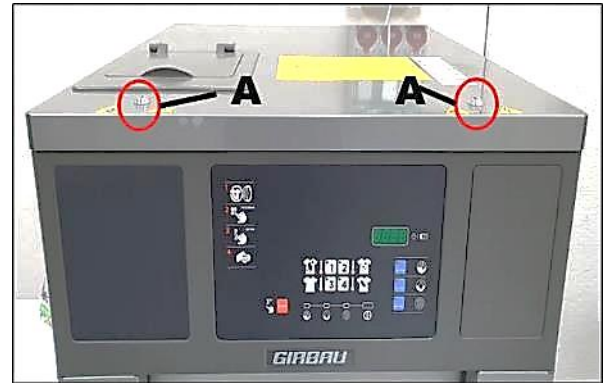

Fig. 2.1
3. Remove the washing machine's top cover (Fig. 2.1 / **A**).